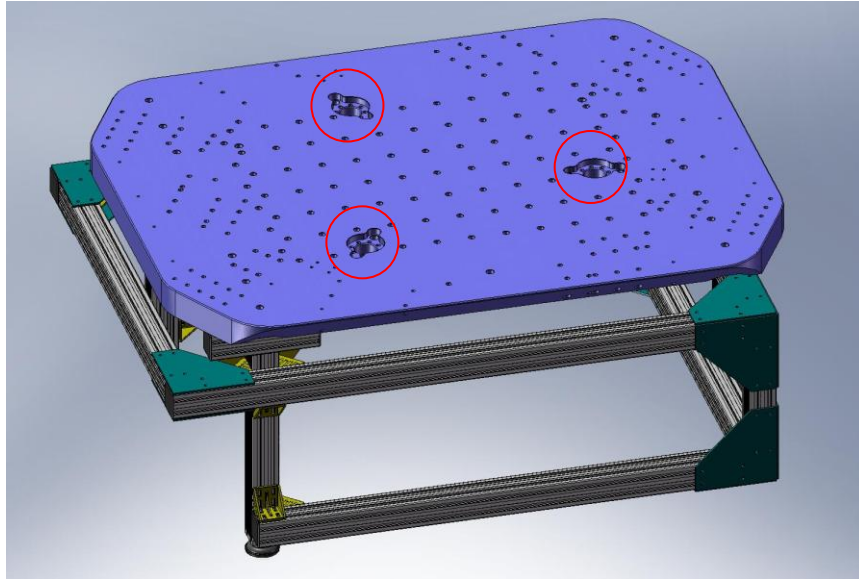
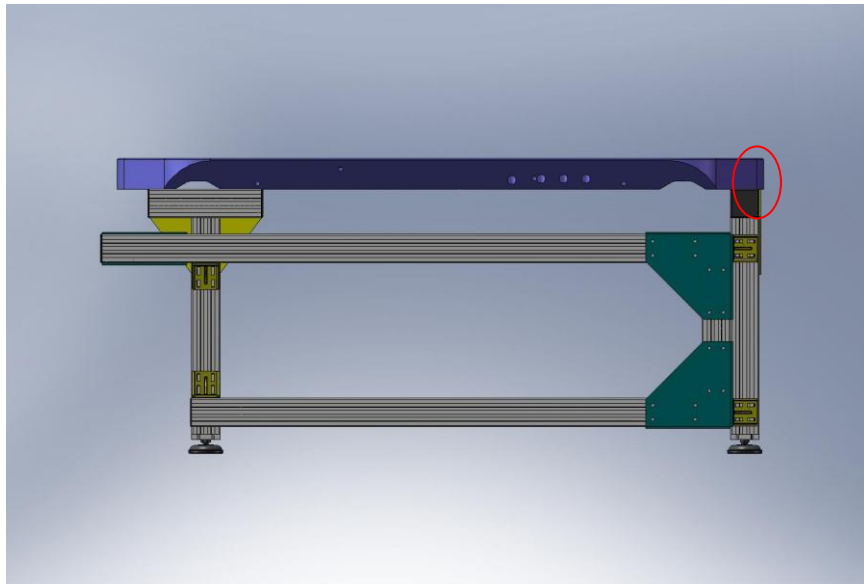

Figure 1.3. Stage 0 Base resting on Assembly Stand. Note orientation of (3) pockets for Spring Pull-Down tooling.
Figure 1.4. Back edge of Stage 0 Base should be close to back edge of Assembly Stand.
- (3) 3/4"-10x2.0*Dia.
- Pick up the **Stage 0 Base**, using lifting eyes threaded into the newly installed Heli-Coils, and place it onto **Assembly Stand**. Orientation should be as shown in Figure 1.3 and Figure 1.4.